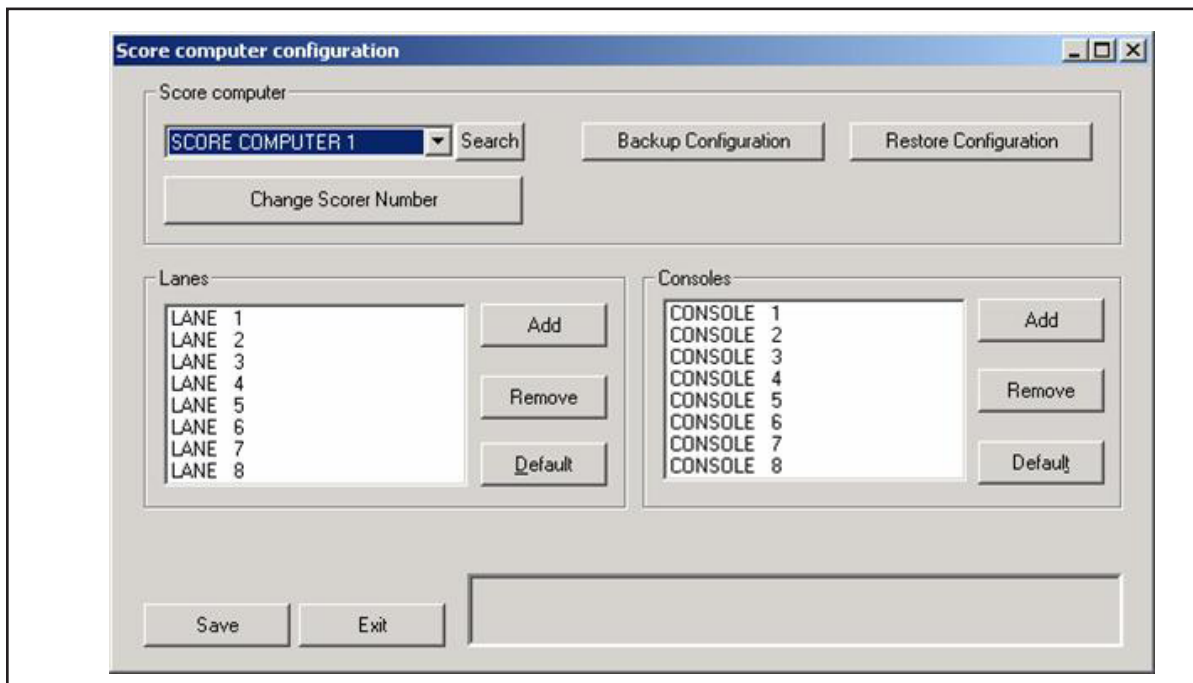

Figure 19. Scorer Configuration Screen
4. Select the appropriate SCORING COMPUTER from the drop-down list on the top-left of the window. Refer to *Figure 19*.
5. Under the “Lanes” column, double-click on the first lane that has bumpers installed, and assign the bumper type “Brunswick” to the lane. *Refer to Figure 19.*